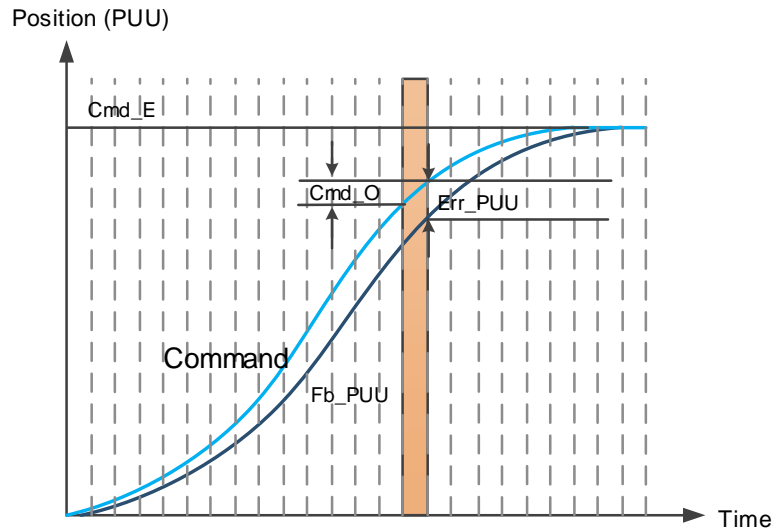

Figure 7.1.2.2 Monitoring variables status when a command is executed in PR mode
You can use the digital input (DI) to call and the digital output (DO) to monitor PR paths (refer to Table 8.1 and 8.2 for DI/O function descriptions). When you trigger the motion command with DI.CTR_G [0x08], the servo operates based on the command from the internal registers. Once the execution is complete, DO.Cmd_OK [0x15] (PR Position command complete) is set to on. When the position deviation (pulse number) becomes smaller than the value of P1.054, DO.TPOS [0x05] (Motor reaches the target position) is set to on. Then, both DO signals are on and the servo outputs the MC_OK [0x17] signal to signify that it has completed this PR path. The operation is as shown in Figure 7.1.2.3. If you have set a delay time in this PR and the position deviation (pulse number) is smaller than the value of P1.054, DO.TPOS [0x05] is set to on.